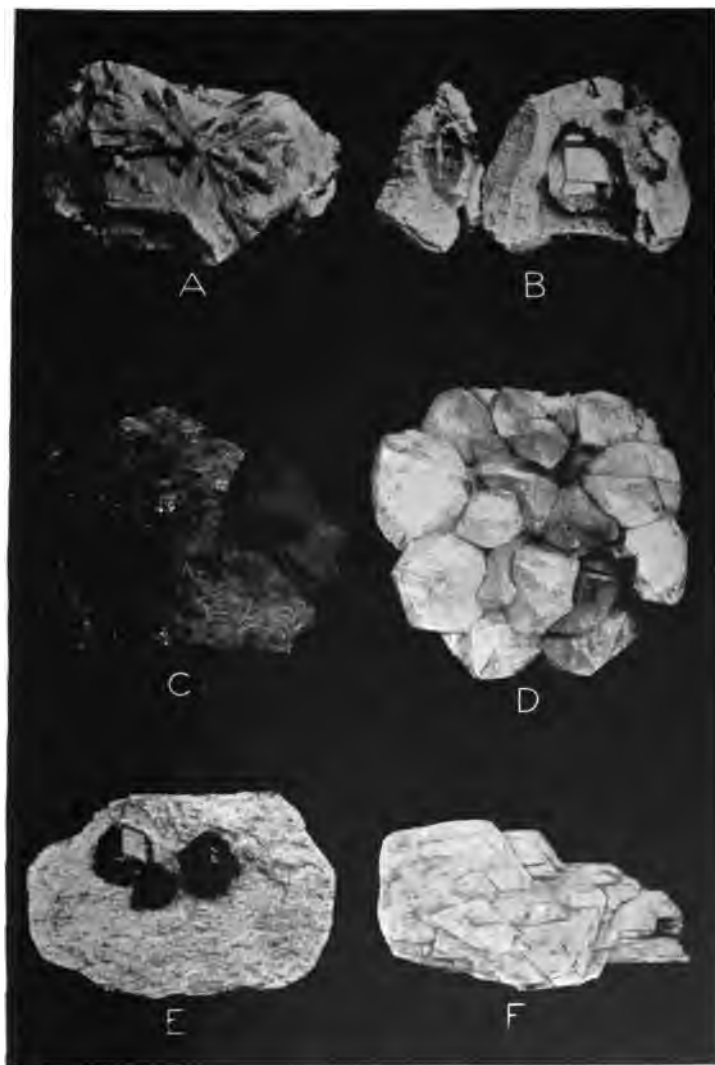

FIG. 88. — Plate of crystals. *A.* Rubellite. *B.* Quartz crystal in matrix. *C.* Galenite, or galena. *D.* Quartz crystals. *E.* Garnets on rock. *F.* Gypsum.
99. Crystallization. When the saturated solution of a solid is cooled or evaporated, some of the solid separates from the solvent in the form of crystals. Crystallization may also occur when a substance changes from the liquid to the solid state. During crystallization the molecules of the solid arrange themselves in regular geometric figures. The shape of the crystal depends upon the nature of the solid and the conditions under which crystallization occurs, Fig. 88. Granulated sugar, rock candy, and snowflakes are familiar examples of this beautiful phenomenon. The diamond differs from the graphite in your "lead" pencil only in the form in which the carbon particles of which it is composed have crystallized.